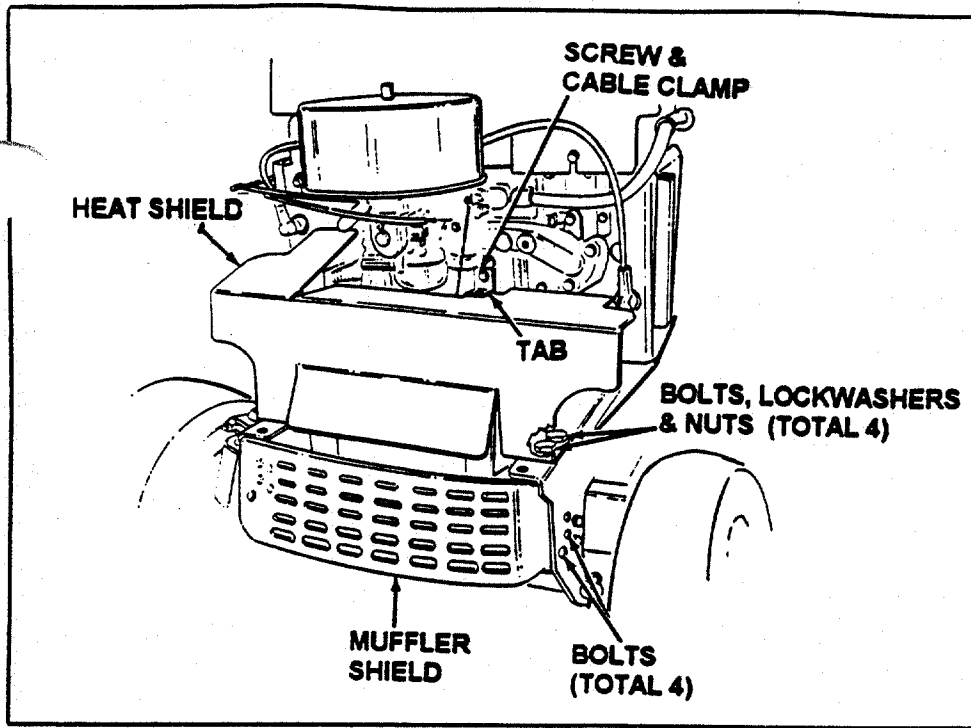

FIGURE 1
- C. REMOVE THE FOUR BOLTS HOLDING THE MUFFLER SHIELD TO THE TRACTOR FRAME. SEE FIGURE 1**
- 2. REMOVE THE FOUR BOLTS AND NUTS HOLDING THE HEAT SHIELD AND MUFFLER BRACKET TO THE TRACTOR FRAME. SEE FIGURE 1.**
5. USING A 1/4" SOCKET, REMOVE THE SCREW AND UNUSED CABLE CLAMP ON THE ENGINE. DISCARD THE CABLE CLAMP BUT RETAIN THE SCREW. SEE FIGURE 1.
USING THE SMALL SCREW THAT WAS ATTACHED TO THE ENGINE THAT YOU REMOVED IN STEP 5, ATTACH THE TAB ON THE NEW HEAT SHIELD TO THE ENGINE. SEE FIGURE 1.
10. INSTALL THE MUFFLER SHIELD USING FOUR BOLTS. SEE FIGURE 1.
13. PLACE THE GREEN (X) PROVIDED IN THIS SERVICE KIT NEXT TO THE MODEL PLATE ON THE TRACTOR TO IDENTIFY THAT THIS TRACTOR HAS BEEN REPAIRED.